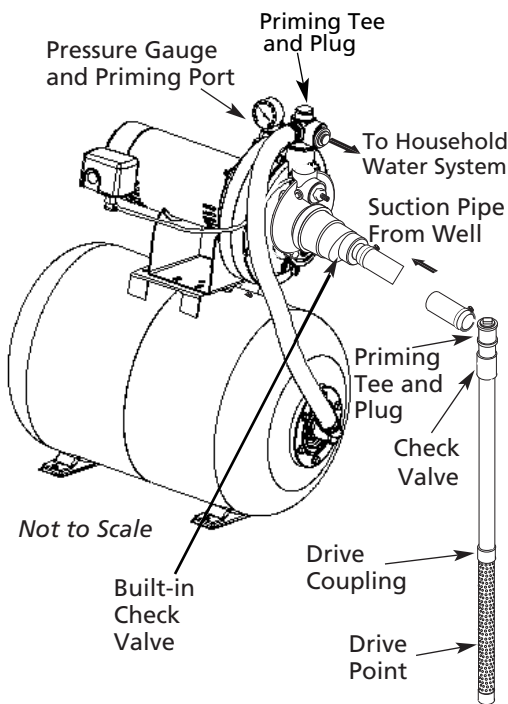

Figure 5 - Driven Point Installation
4. Use the fewest possible fittings (especially elbows) when connecting the pipe from the well point to the pump suction port. The suction pipe should be at least as large as the suction port on the pump (include a check valve – See Figure 5, page 9). Support the pipe so that there are no dips or sags in the pipe, so it doesn't strain the pump body, and so that it slopes slightly upward from the well to the pump (high spots can cause air pockets which can air lock the pump). Seal the suction pipe joints with